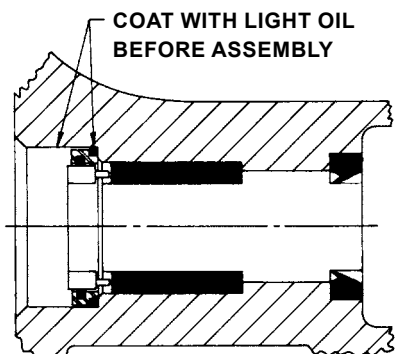

FIGURE 6
4. Loosen two setscrews in the face of the bearing housing and remove the bearing housing assembly from the Bracket. Refer to Figure 6. Remove Pair of half round rings under the inner spacer collar from the shaft. There are no half round rings on the "H" and "HL" size pumps.
5. Install seal seat in seal housing bore, Refer to Figure 6. Make sure drive pins are located in slots in bracket bushing.